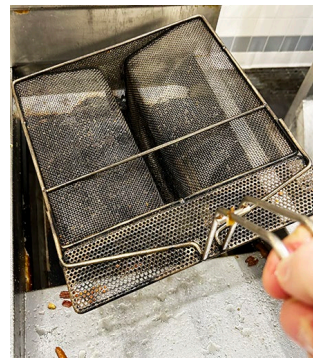
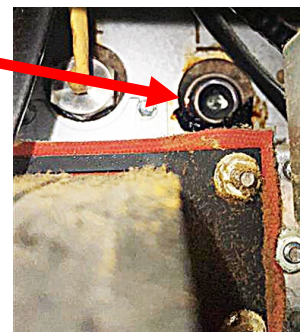

Figure 2
Figure 5
1. Remove the sediment tray from both frypots (see Figure 2).
2. Locate the OIB plug directly above and to the right of the blower (see Figure 5). The OIB plug is a 3/8" square socket plug.
3. Take five (5) photos.
- a. Photo of Sediment Tray removed (see Figure 2).
- c. Photo above the blower showing around the OIB plug (see Figure 5). Get an unobstructed view. If there's any leakage, ensure that it is shown.